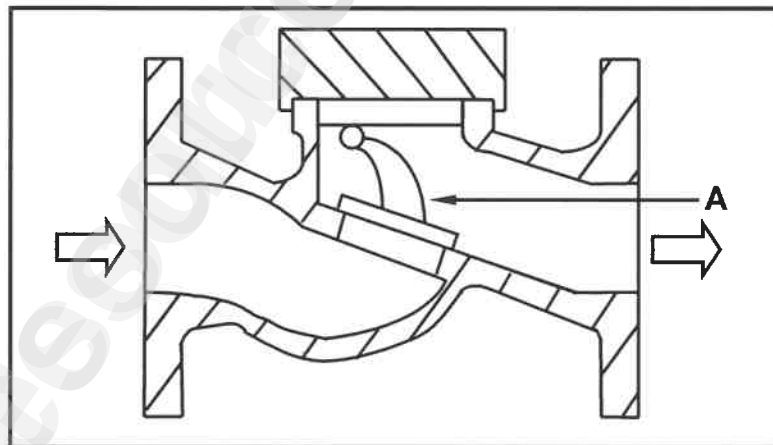

FIGURE 4.8
- 4.8 FIGURE 4.8 below shows a valve which is commonly used in hot-water and pumping installations.